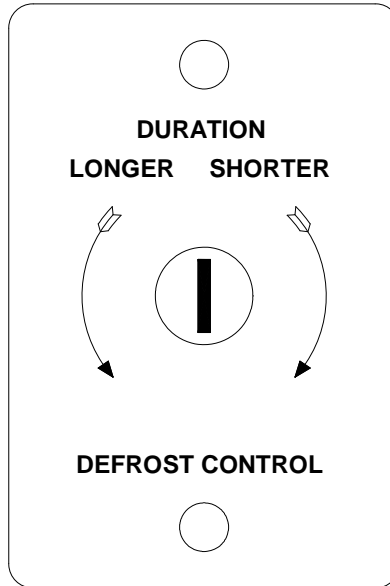
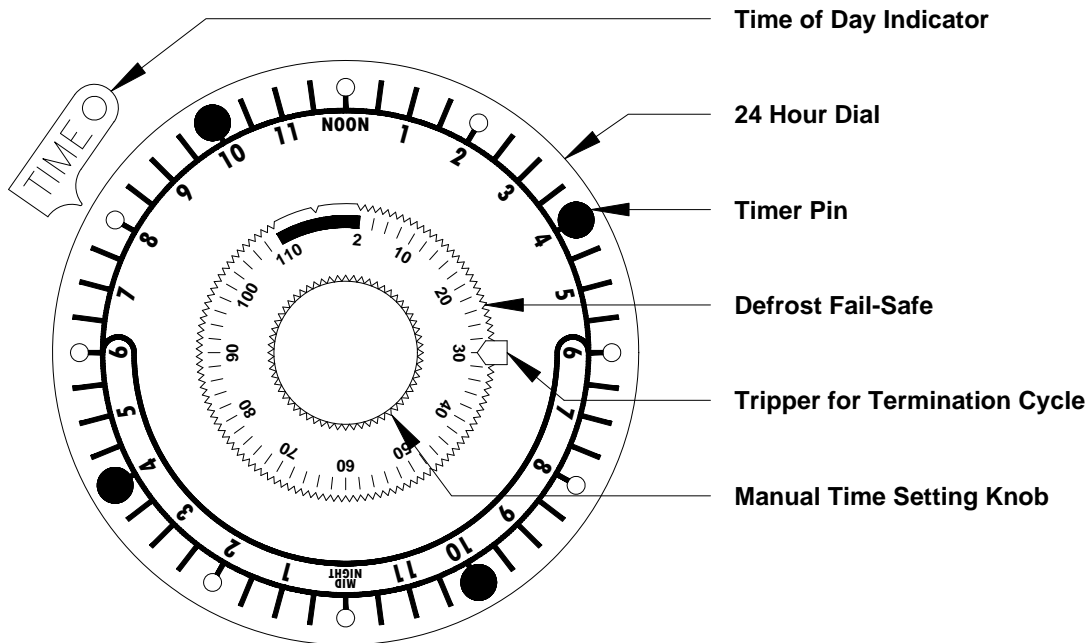

FIGURE 5-1
FIGURE 5-2
ICE DROPLETS FORMING ON THE CEILING is a sign that the system is remaining in defrost too long after the ice clears from the coil fins. This can be corrected by turning the defrost duration screw towards the "shorter" position (fig. 5-1). If freezer still remains in defrost too long, a defrost setting pin should be removed from the timer clock (fig. 5-2). Repeat if necessary.
ICE BUILD-UP ON BACK OF EVAPORATOR COIL is a sign that the defrost period is not long enough. Turn duration setting towards the "longer" position (fig. 5-1). If build-up still occurs, a defrost setting should be added to the timer clock (fig 5-2).
- (1) If excessive ice build-up has occurred, it may be necessary to manually melt away ice from coil surface, prior to making adjustments. System must be turned off in order to manually defrost the coil.
- (2) Allow 24 hours between adjustments.
- (3) Not all freezers are adjustable. To find out if yours is, find the defrost control (fig. 5-1), or call for assistance.